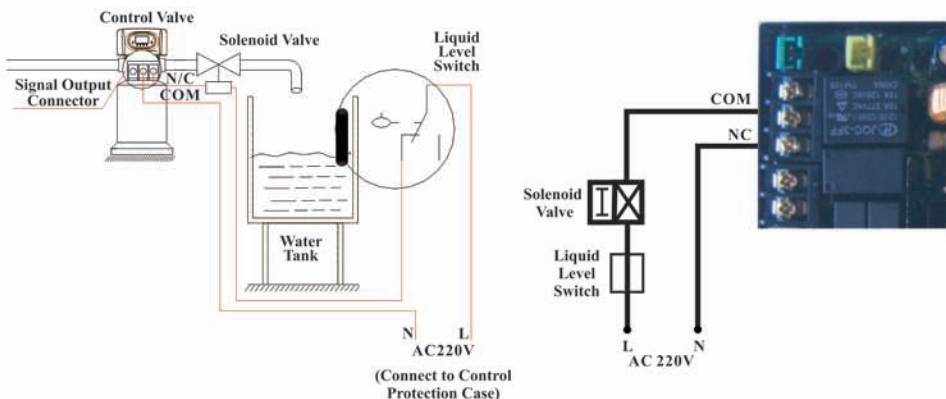

Figure3-1 Wiring of Solenoid Valve on Outlet
① Solenoid valve on outlet controls water level in brine tank.
**Instruction:** If system strictly requires no hard water flowing from outlet in regeneration cycle( Mainly for no hard water flows out when valve is switching or valve in backwash or brine drawing positions), a solenoid valve could be installed on outlet, the wiring refers to Figure 3-1.